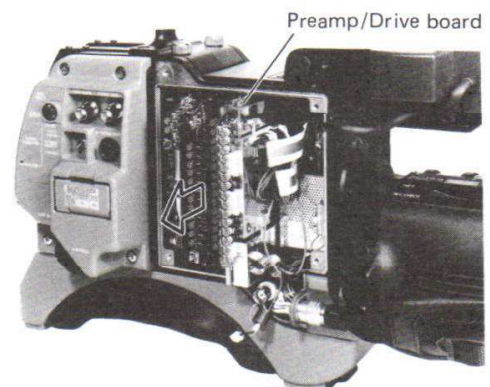

Fig. 2-1-4
- Remove the Preamp/Drive board from Mother board by pulling it forward. (Fig.2-1-4)